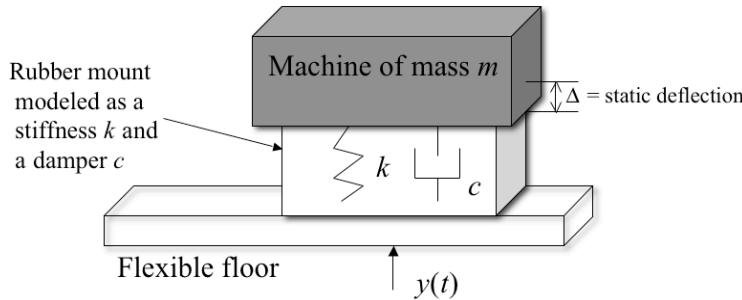

Figure P2.37
- 2.37** A machine weighing 2000 N rests on a support as illustrated in Figure P2.37. The support deflects about 5 cm as a result of the weight of the machine. The floor under the support is somewhat flexible and moves, because of the motion of a nearby machine, harmonically near resonance ($r = 1$) with an amplitude of 0.2 cm. Model the floor as base motion, and assume a damping ratio of $\zeta = 0.01$, and calculate the transmitted force and the amplitude of the transmitted displacement.